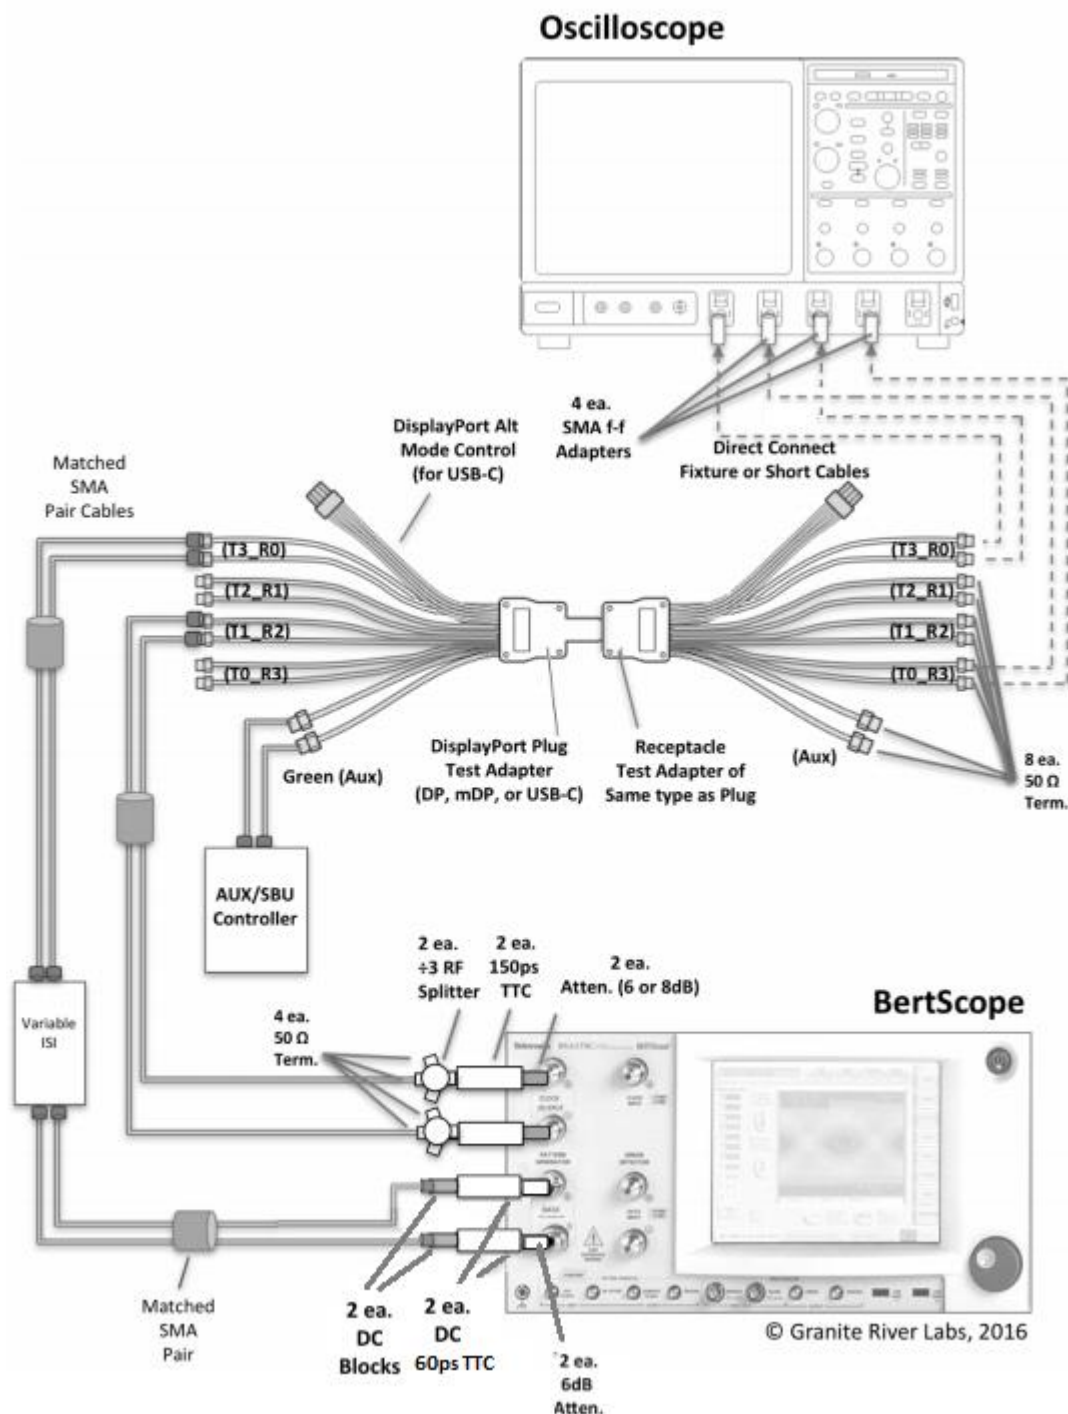

FIGURE 42. HBR3 CONCEPTUAL SETUP FOR TP3 CALIBRATION
Figure 42 shows the conceptual calibration setup at TP3. This setup uses the ARTEK CLE1000-A2 as the variable ISI source and the BERTScope as the crosstalk source.
- Connect the crosstalk source to the fixture and scope as shown in Figure 42.